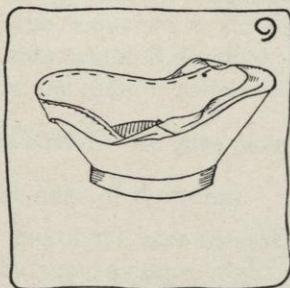

FIG. 9.
- (1) Turn the loose edge of the bias over the edge of the brim, so that it will come on the opposite side of the brim (see Figure 9).